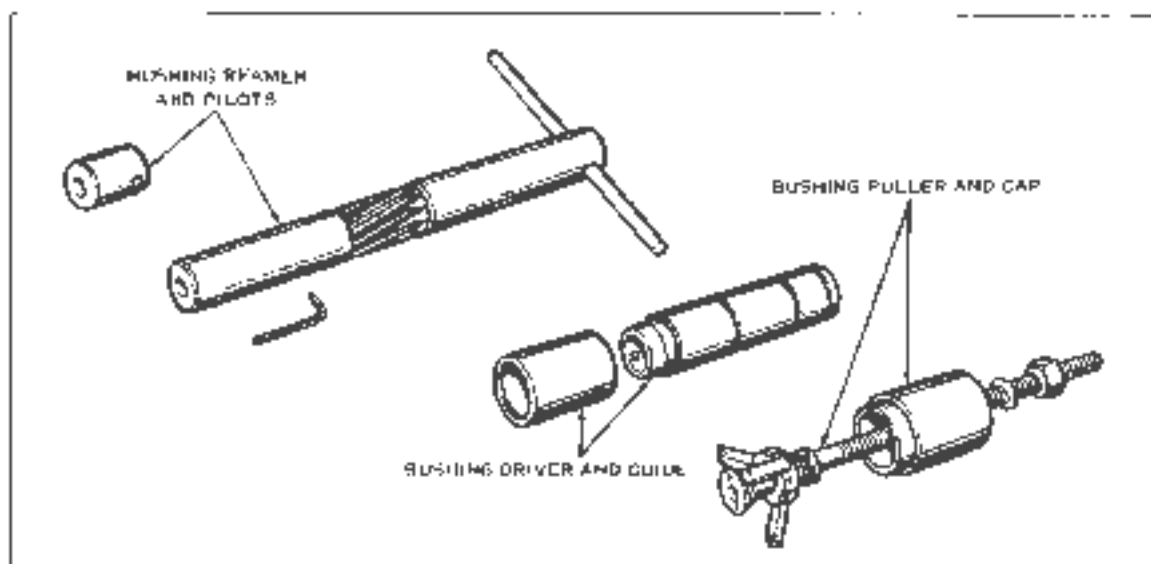

Figure 2-36 Fork Rebushing Tools
**OIL LEAKS FROM VENT HOLE** If oil leaks from vent hole in upper bracket bolt (7, Figure 2-35) and filler screw (38, Figure 2-36) when fork flexes, check for over-filling. Drain and refill with exact amount of oil.
Turn steering damper adjusting screw (26, Figure 2-36) clockwise to apply dampening action and counter-clockwise to reduce dampening action. Apply steering damper only when operating under conditions where some degree of dampening stabilizes steering. It is best to keep the damper set a little snug when operating with a sidecar.
#### ADJUSTING FRONT FORK TRAIL - ADJUSTABLE FORK (Figure 2-36)
##### Adjustable Fork (Figure 2-36)
#### DISASSEMBLING FORK SIDE - LATE 1977 AND LATER (Figure 2-36)